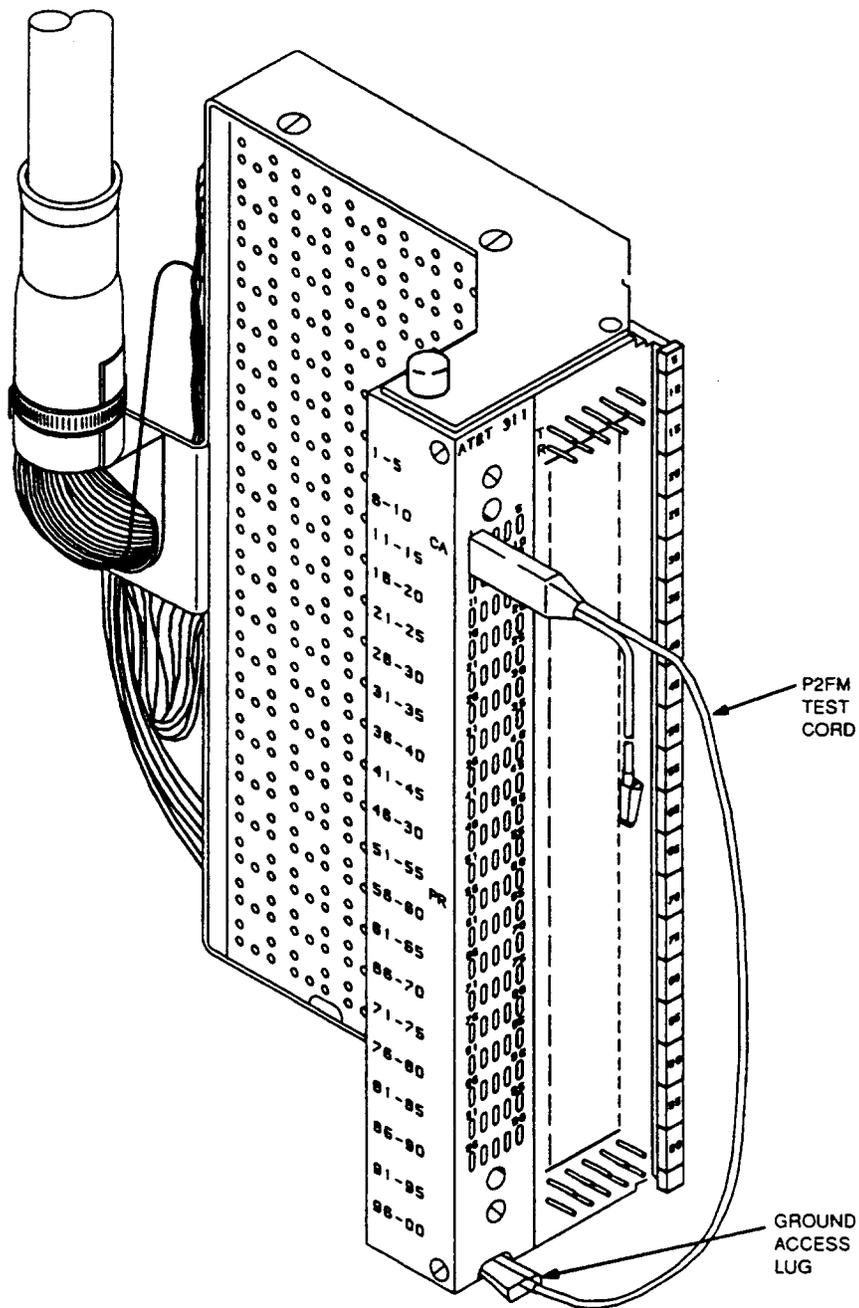

Figure 25. P2FM Test Cord (For Testing Individual Pairs on a 311-type Connector)
6.08 The P2FM test cord (Figure 25) is used to short the tip and ring or to ground the tip and/or ring of an individual cable pair by inserting the plug end in a pair of recessed test terminals on the 311-type connector.